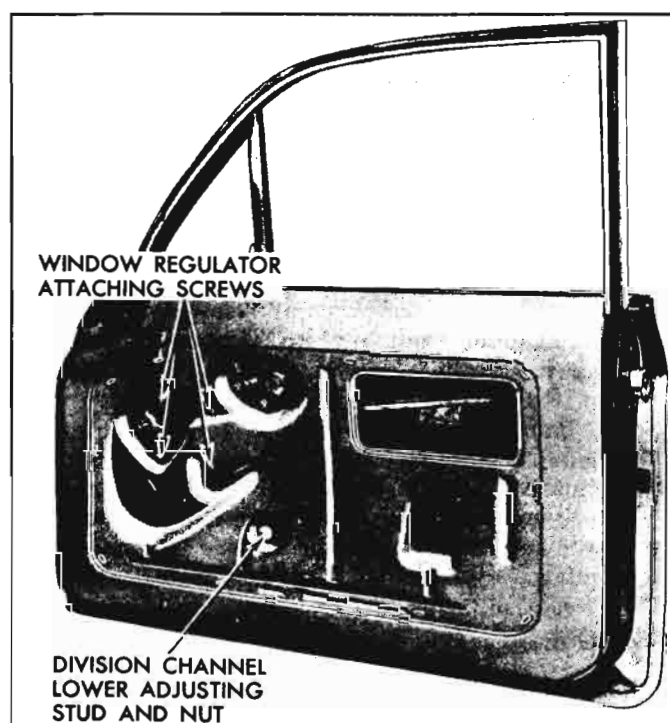

Fig. 10-91—Front Door Window Regulator and Lower Ventilator Attachment
2. Remove ventilator division channel lower adjusting stud and nut (fig. 10-91).
5. Remove window regulator attaching screws (Fig. 10-91). Carefully disengage regulator arm rollers from lower sash channel cam; then, work regulator assembly rearward and remove through access hole.